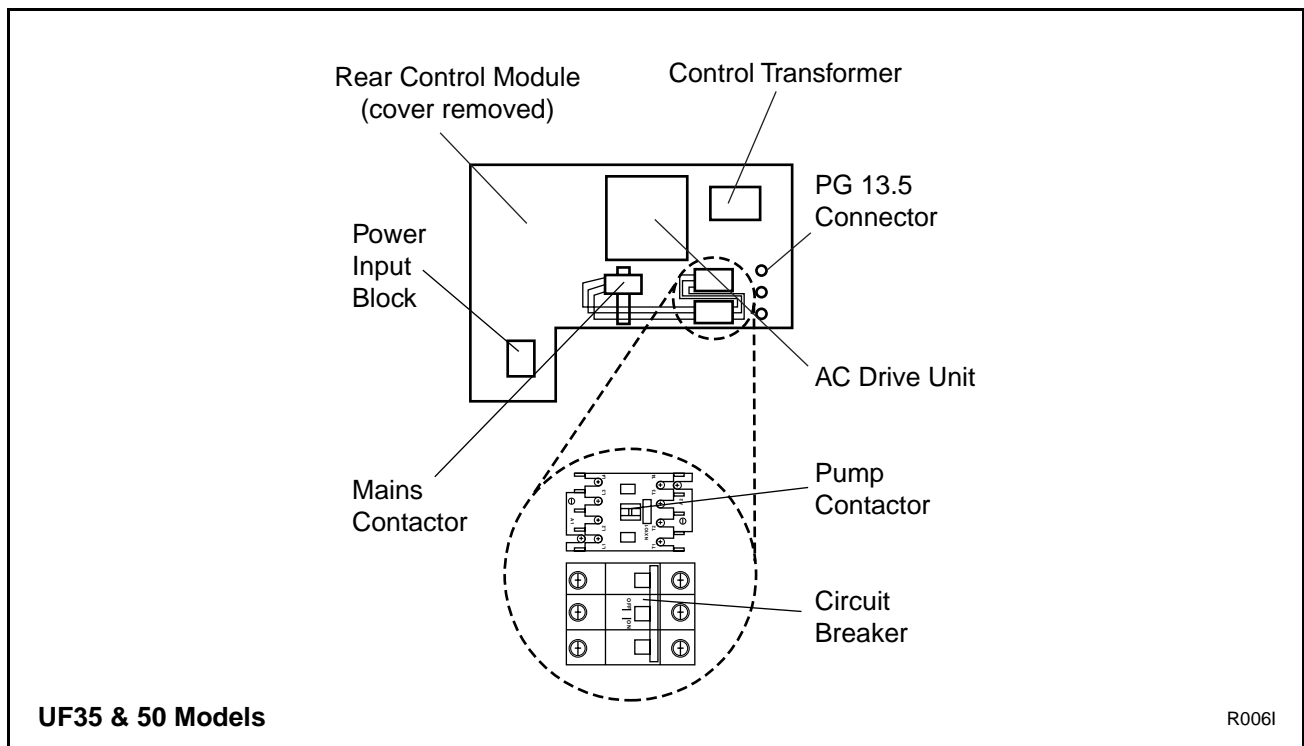
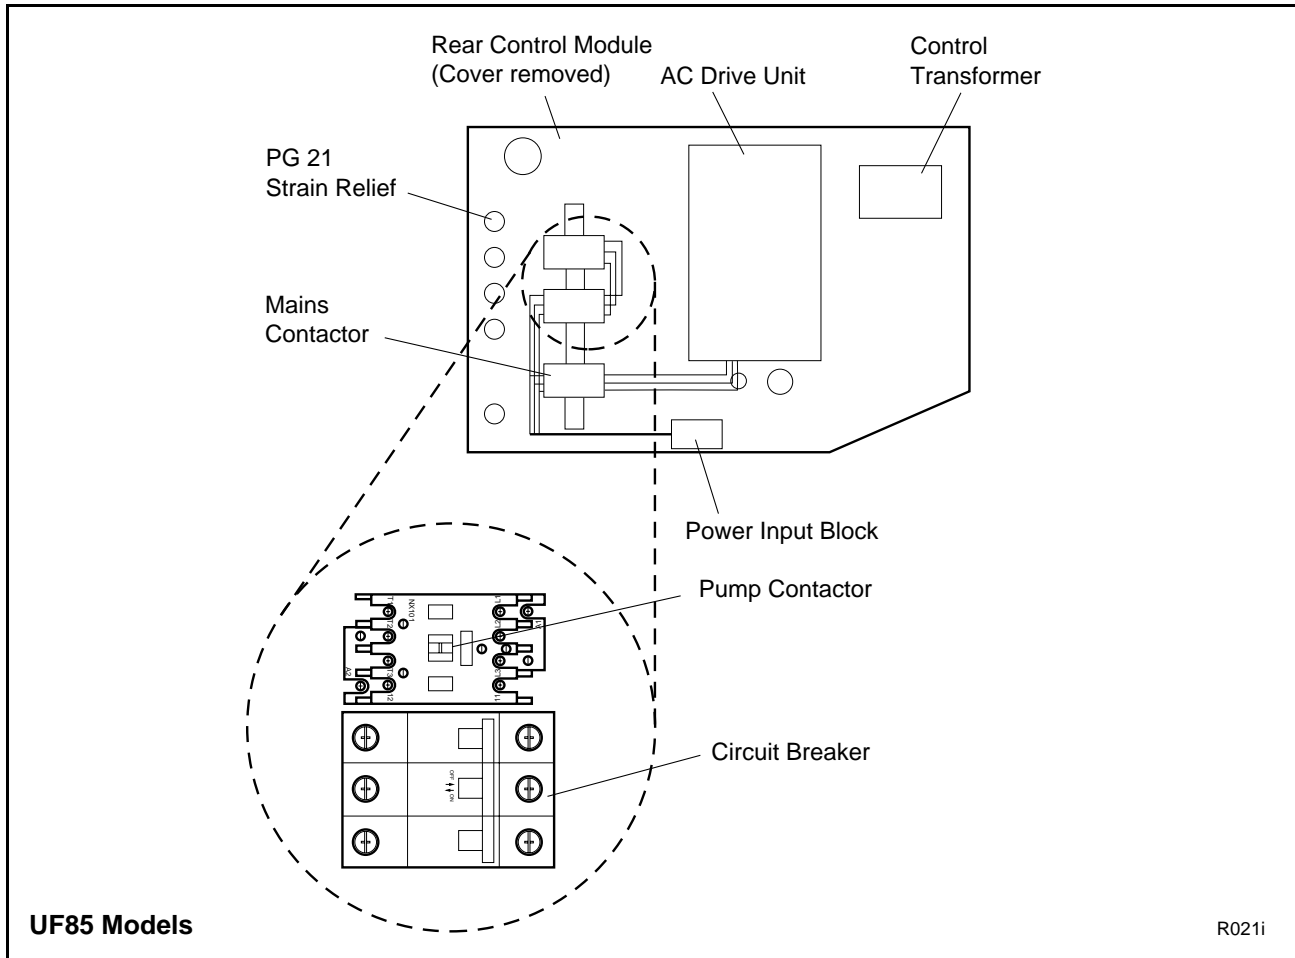

Figure 21
Figure 22
- On the 35- and 50-pound models,* attach the pump contactor and the circuit breaker, included in the kit, to the mounting rail just below the control transformer on the right side of the AC drive unit as shown in Figure 21. *On the 85-pound models,* attach the pump contactor and the circuit breaker, included in the kit, to the mounting rail located to the left of the AC drive unit.
- a. *On the 35- and 50-pound models,* remove the top two plugs of the three black plugs from the right side of the rear control module. These plugs are located just to the right of the pump contactor and circuit breaker. See Figure 21. *On the 85-pound models,* remove the second plug from the top located to the left of the pump contactor and circuit breaker. See Figure 22.